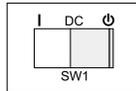

Figure 7. Standby condition label
7. Verify that the standby condition label is installed on the 2104 Model DS4 or Model TS4. See Figure 7.